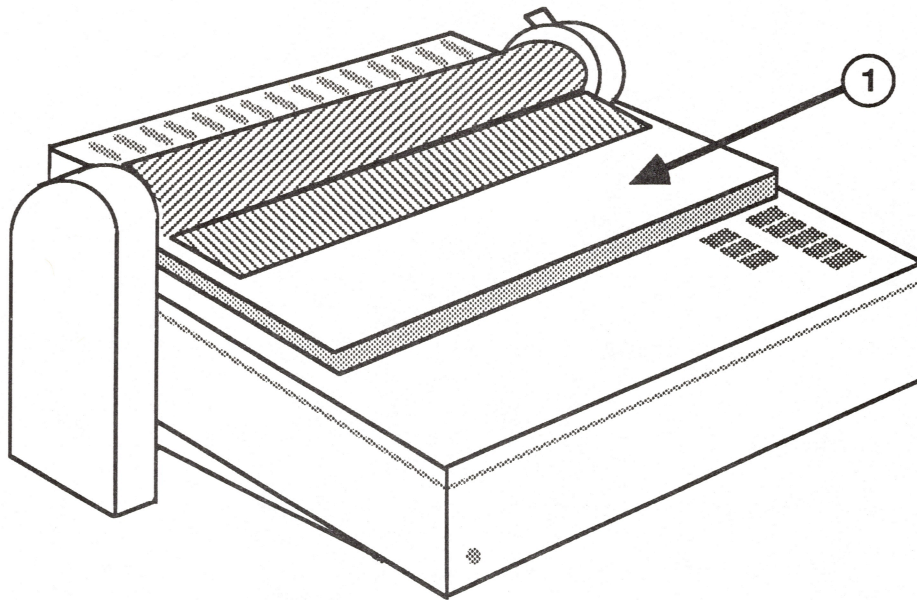

FIGURE 3
2. Lift up and remove the paper cover (see Figure 3, #1).